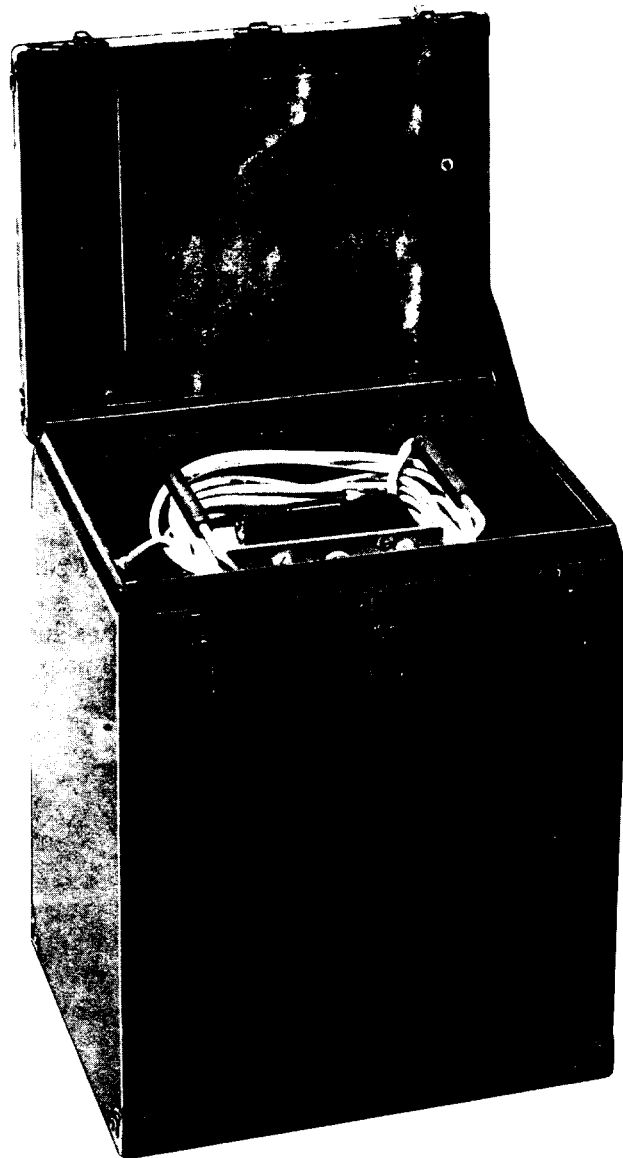

Fig. 2—KS-20900 L15 Carrying Case
1.07 A KS-20900 L15 carrying case (Fig. 2) is provided to house the camera. The camera and lens are stored in a polystyrene case and placed in a polyurethane lined box in the bottom of the case.